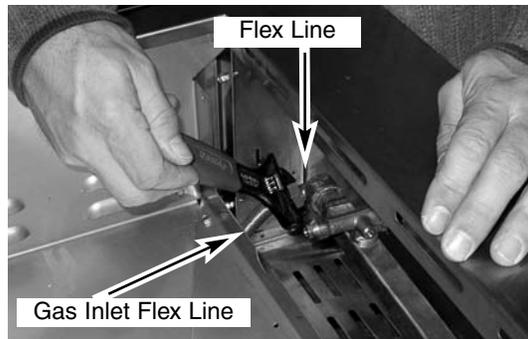

Fig 9
10. Disconnect the right side flexline from the manifold using the adjustable wrench. This will free up the right side of the manifold (Fig. 9).
18. Reattach the flexline on the right of the grill to the new manifold using the adjustable wrench (See Fig. 9 on previous page).